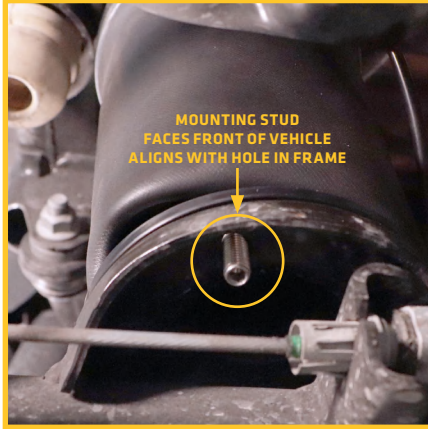

FIGURE 34
1. Install the new rear air springs. The threaded stud on the bottom of the spring will face the front of the vehicle and aligns with a hole in the axle mounted spring seat. The slot on the rear of the air spring will face the rear of the vehicle. (FIGURES 34, 35)